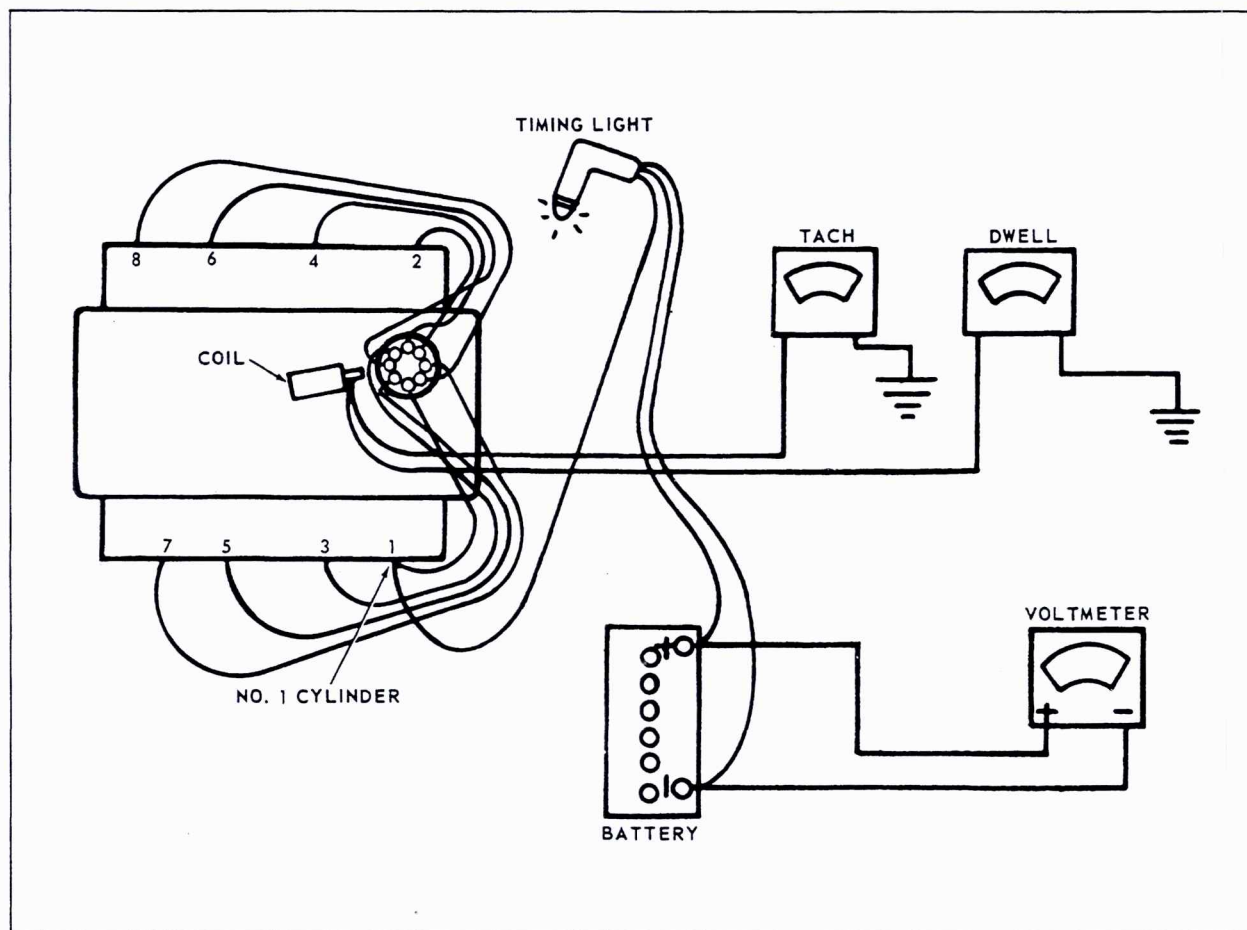

Fig. 6-51 Engine Tune-Up
Figure 6-51 illustrates the basic instrumentation required to perform the following tune-up procedures. If further testing is required such as coil tests, condensor tests, or cylinder leakage tests, the equipment manufacturer's recommendations, supplied with the test equipment to be used, should be followed for procedures. The specifications for such tests appear on page 6-48 of this manual.
The basic connections shown in Fig. 6-51 are as follows:
6. Connect tachometer, Fig. 6-51, to engine and set parking brake securely. Place transmission selector lever in neutral or park position.
1. With instruments connected as in Fig. 6-51, operate engine to a speed of 1500 to 2000 RPM.